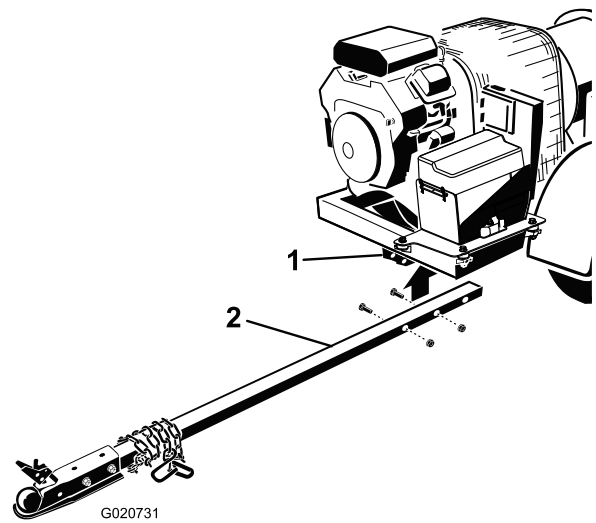

Figure 5
2. Insert the hitch tube into the frame brackets (Figure 5). Secure the tube to the frame with 2 bolts (3/8 x 3 inches) and flange nuts (3/8 inch).